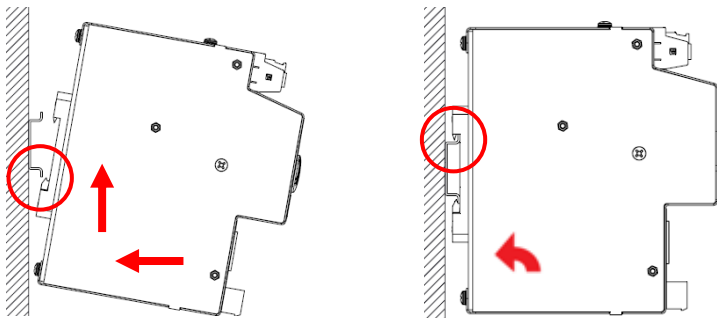

Figure 2. Mounting Unit on DIN Rail
1. Push the unit towards the rail to engage the spring-loaded clip. Then push up as illustrated in the first drawing of Figure 2.
2. Pivot the device towards the rail so that the hook clips into the mounting rail as illustrated in the second drawing of Figure 2.